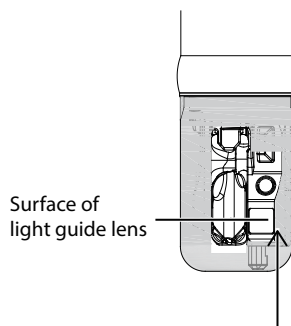

Figure 3-15 Confirming the Parallel
- Ensure that the position on the distal end cap and the surface of the light guide lens indicated by the arrow are parallel and that the light guide lens and the objective lens are completely out, as shown in Figure 3-15.